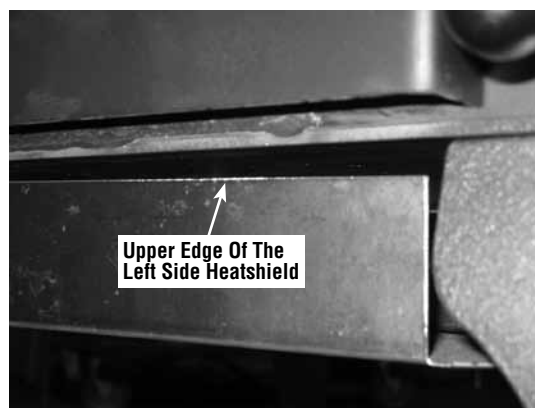

Figure 17
Step 3. Locate the tabs on the back of the control box. Slide the tabs onto the upper edge of the left side of the heatshield. See *Figures 17 and 18.*